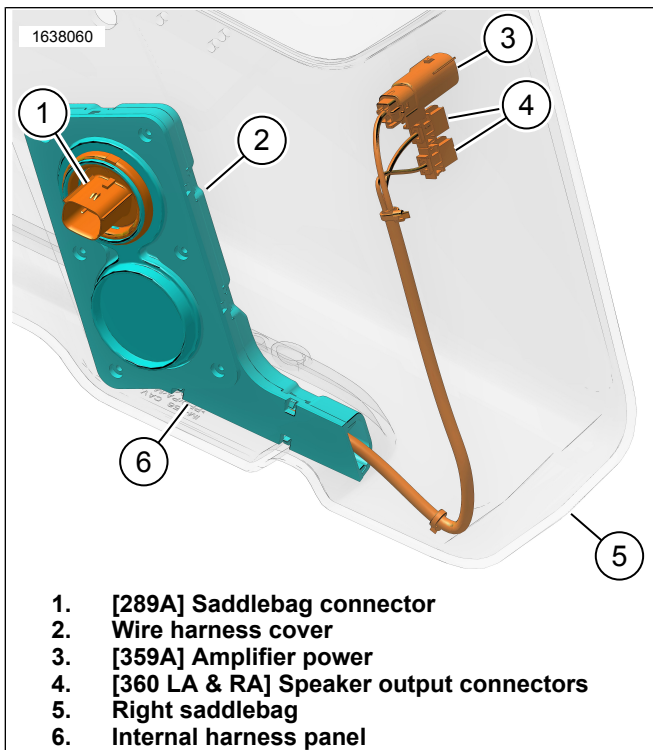

Figure 8. Internal Wire Harness 69202871
8. Figure 8 Install internal wire harness as shown.
- a. Install wire harness cover (2).
14. See Figure 8 and Figure 10. Connect Internal Wire Harness to Amplifier Assembly.
See Figure 8 and Figure 10. Connect Internal Wire Harness to Amplifier Assembly.